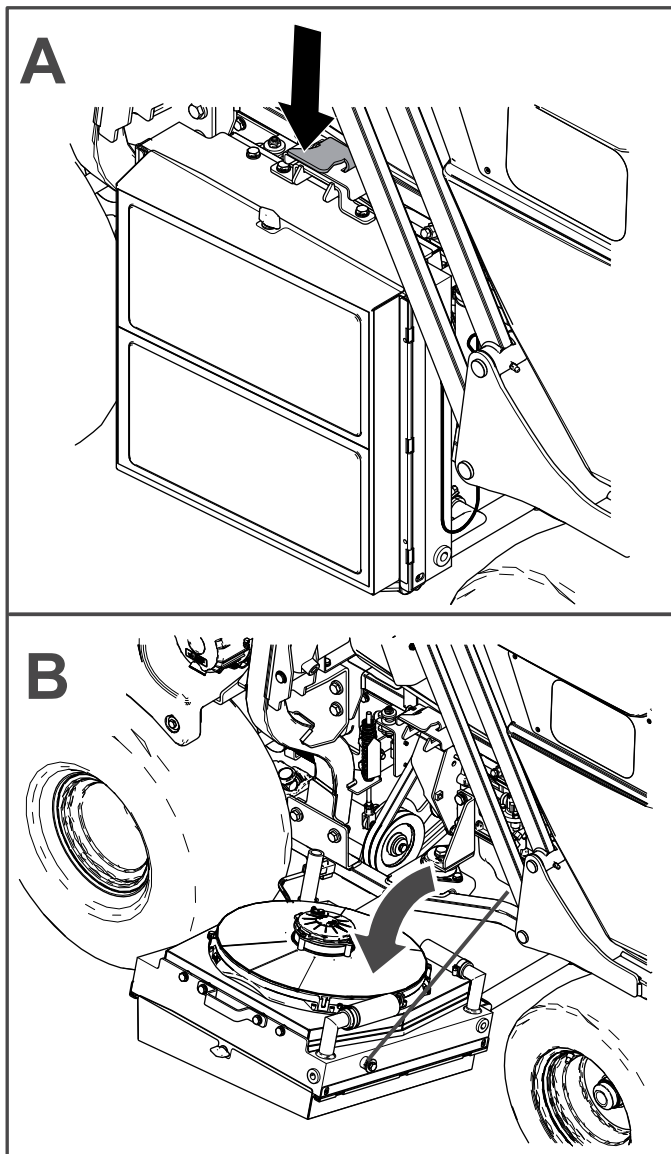

Figure 53
Push down on the latch and lower the radiator to access the engine (Figure 53).
1. Lower the radiator and check the engine-oil level as shown in Figure 53 and Figure 57.